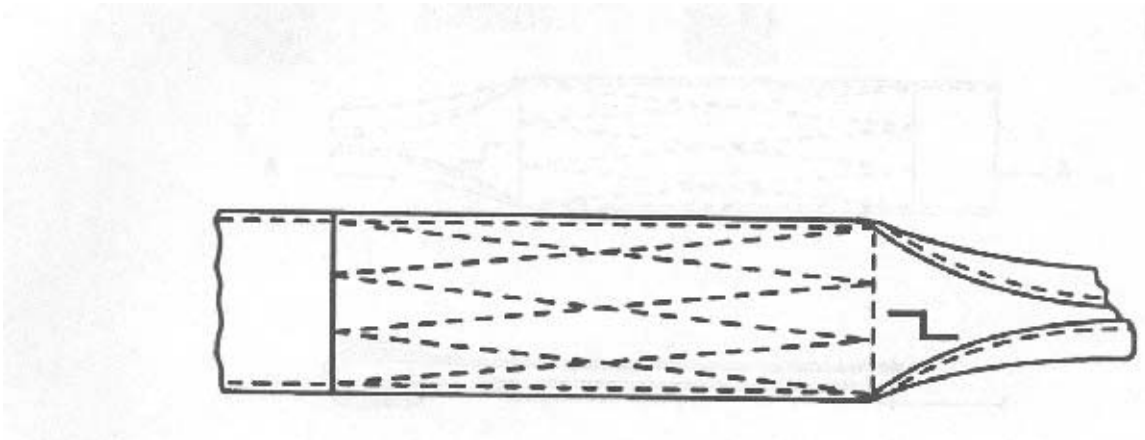

Figure 3-54
1. Remove the damaged loop. (See Figure 3-54)